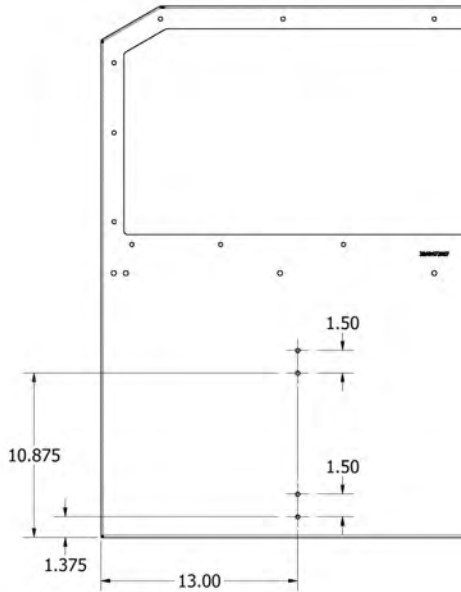

Figure 2a
1. Locate the Barrier [4BAR472000 or 01] and mark the holes required for the Lower Divider Brackets as shown in Figure 2a. Drill with a 9/32" drill bit then deburr the holes.